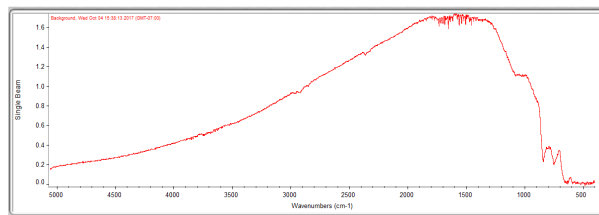

Figure 5 Single beam spectrum of Ge ATM background.
2.3. Under the *Bench* tab, set the accessory to *ATR*, Figure 5.
Enter a title for the experiment. Your window should be similar that shown in Figure 5.
2.8. Make sure nothing is touching the Ga; click the menu bar icon “Col Bkg” to collect the background and click *OK* to start collection, Figure 5.